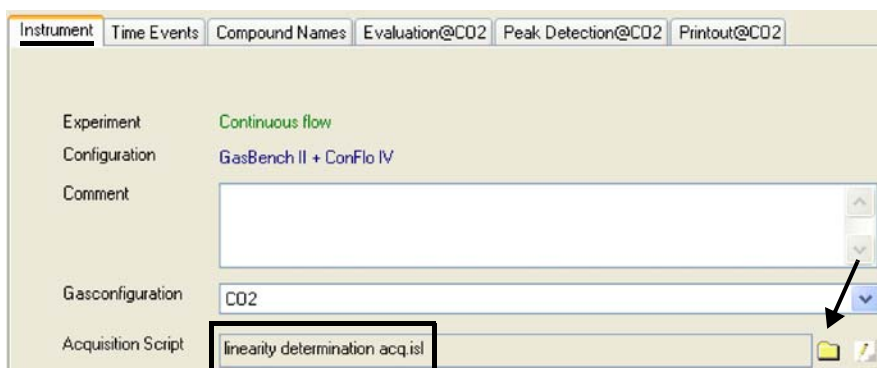

Figure 5-52. Changing acquisition script to Linearity determination acq.isl
4. In the Instrument tab of the method, change the acquisition script to Linearity determination acq.isl by using the  button. See Figure 5-52.